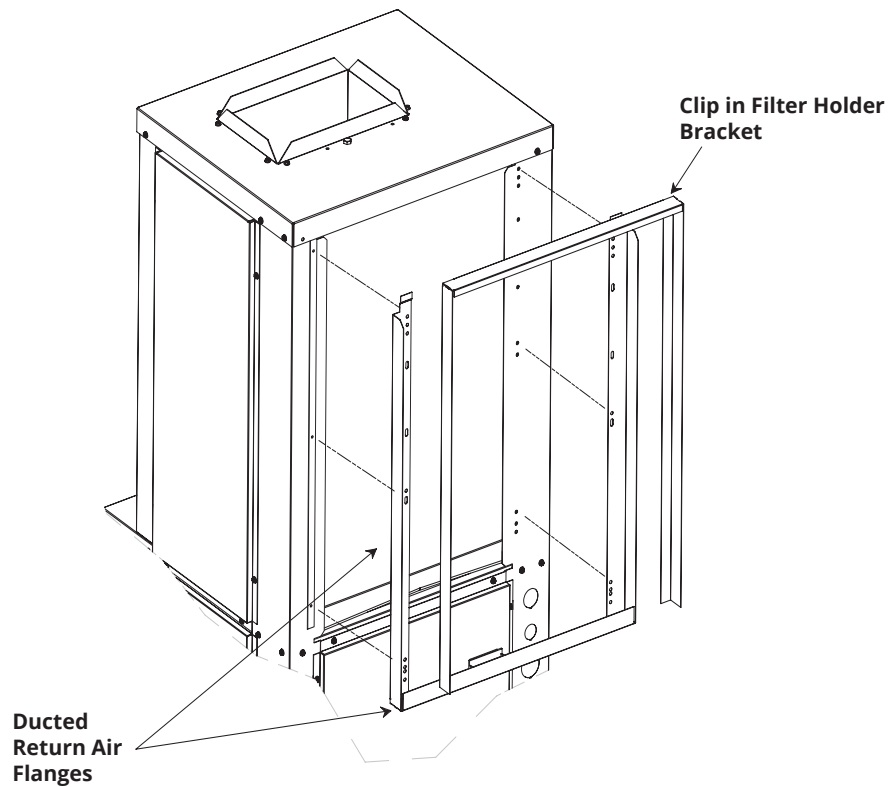

FIGURE 7
11. **Filter Brackets** – (See Figure 7) Filter Brackets and a throw away filter are shipped with each unit and are field installed over the unit’s evaporator coil.